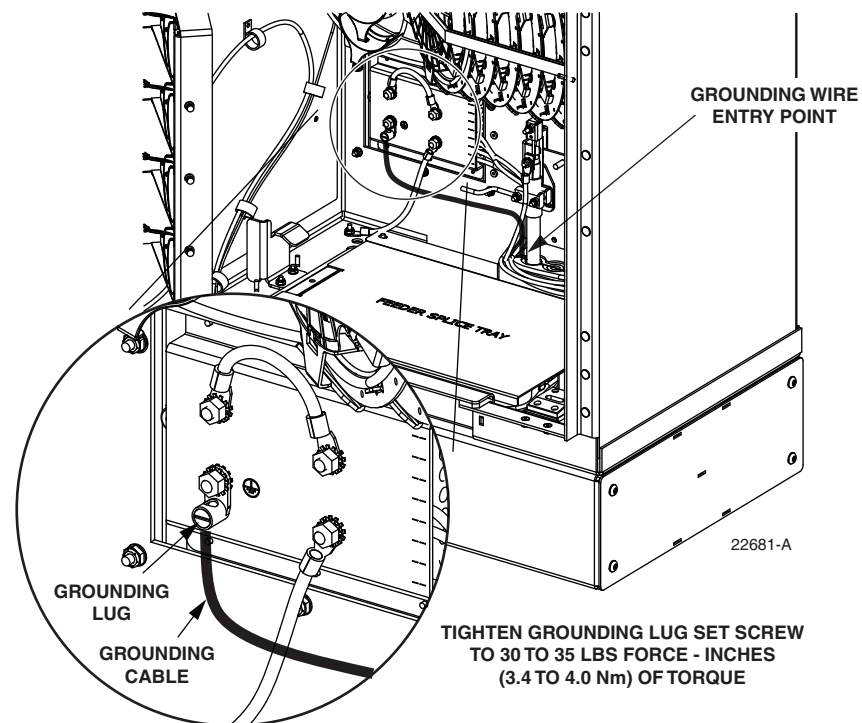

Figure 8. Grounding Wire Connection To Cabinet
2. Working from the bottom side of the cabinet, insert the grounding wire through the flexible membrane at the point indicated in Figure 8.